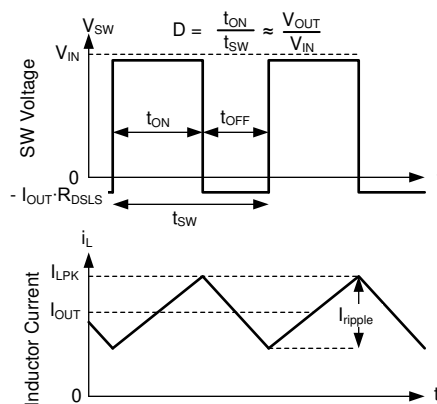

Figure 7-16. SW Voltage and Inductor Current Waveforms in Continuous Conduction Mode (CCM)
The following operating description of the device refers to Section 7.2 and to the waveforms in Figure 7-16. In CCM, the device supplies a regulated output voltage by turning on the internal high-side (HS) and low-side (LS) NMOS switches with varying duty cycle (D). During the HS switch on time, the SW pin voltage, V_{SW} , swings up to approximately V_{IN} , and the inductor current, i_L , increases with a linear slope. The HS switch is turned off by the control logic. During the HS switch off time, t_{OFF} , the LS switch is turned on. Inductor current discharges through the LS switch, which forces the V_{SW} to swing below ground by the voltage drop across the LS switch. The converter loop adjusts the duty cycle to maintain a constant output voltage. D is defined by the on time of the HS switch over the switching period: